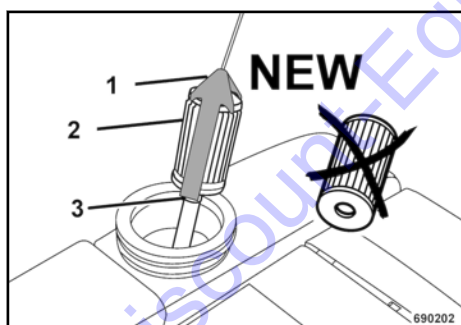

Fig. 47
Pull the holder (1) ↗ Fig. 47 with the fuel filter (2) by the cord out of the tank.